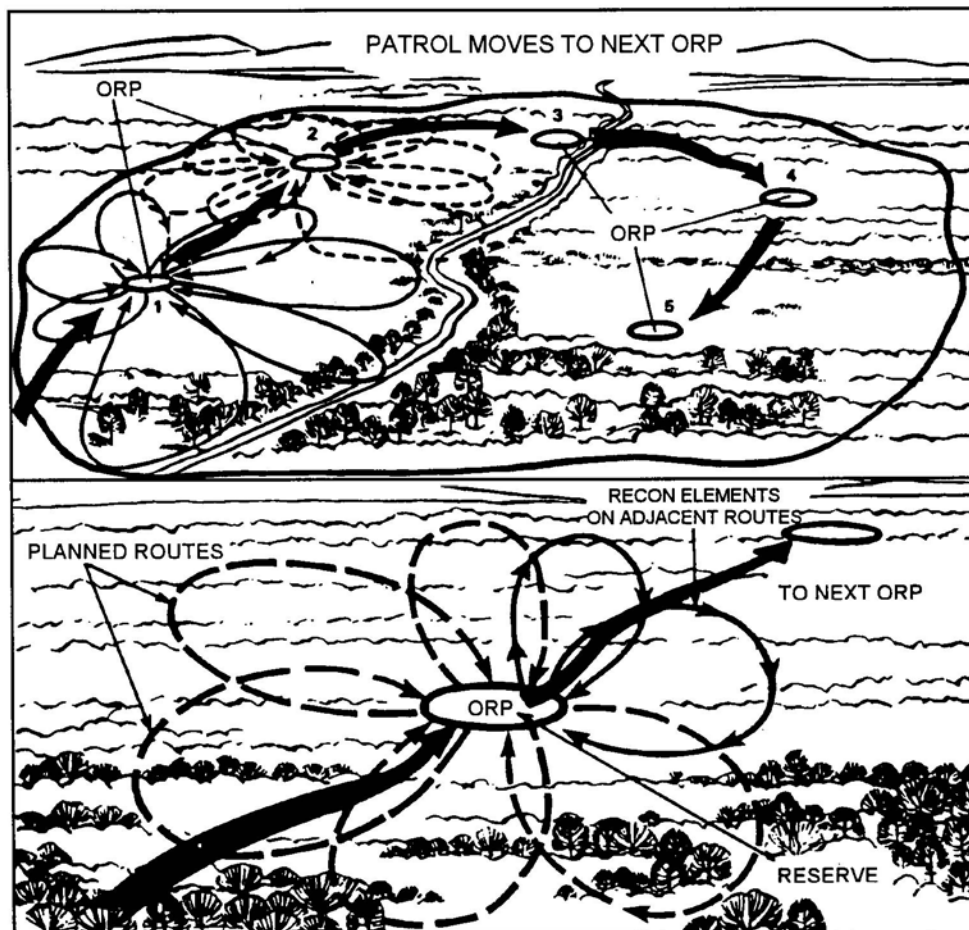

Figure 2. The fan method.
- (1) The fan method (Figure 2). The element leader first selects a series of ORPs throughout the zone from which to operate. When the unit arrives at the first ORP, it halts and establishes security. The leader confirms the unit's location. He then selects reconnaissance routes to and from the ORP. (These routes form a fan-shaped pattern around the ORP. The routes must overlap to ensure that the entire area has been reconnoitered.) The leader sends out reconnaissance elements along the routes. He does not send out all of his elements at once. He keeps a small reserve in the ORP. (For example, if the unit has three reconnaissance elements, only two are sent out. The other one is kept as a reserve.) Additionally, the patrol leader sends the elements out on adjacent routes. This avoids having the unit make contact in two different directions. After the entire area (fan) has been reconnoitered, all information acquired during the reconnaissance is disseminated. The unit moves to the next ORP. This action is reported at each successive ORP.